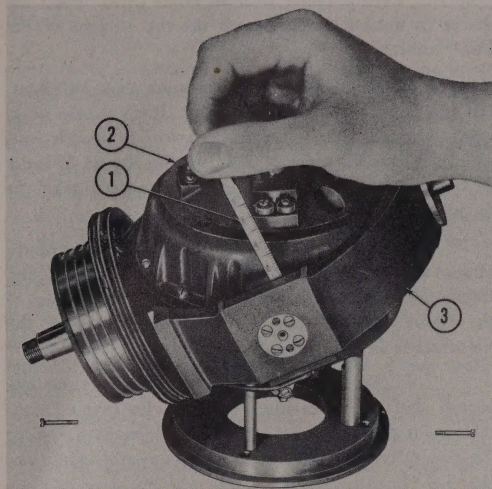

Figure 274 — Checking End Play of Rotor Case in Cardan
1. Slip the cardan assembly over the rotor and case assembly, being careful not to scratch the inside of the cardan with the fillister-head screws which hold the rotor case bearing sockets to the case. Also, be sure that the tapped holes to which the torque motor actuating contact wiper is attached are on the same side as the contact assembly. Insert the locked bearing gudgeon pin (15) on the side having the locked bearing, being careful to line up the scribe marks made when this bearing gudgeon pin was removed. Then, insert the free bearing gudgeon pin (10) on the opposite side, also lining up the scribe marks. Secure the two gudgeon pins to the cardan, using four screws with 4-40x 3/8-inch oval-head in each gudgeon pin.
2. Before inserting the locking screws (8 and 13) into the bearings, check the end play of the rotor case between the gudgeon pins. To do this, use a taper gage (figure 274) inserted between the rotor case and the inside of the cardan. Make sure that the rotor case slides easily from one limit of end play to the other. The minimum end play at this point should be .006 inch. If this end play is less than .006 inch, shims should be inserted under the free bearing gudgeon pin to give the correct end play.